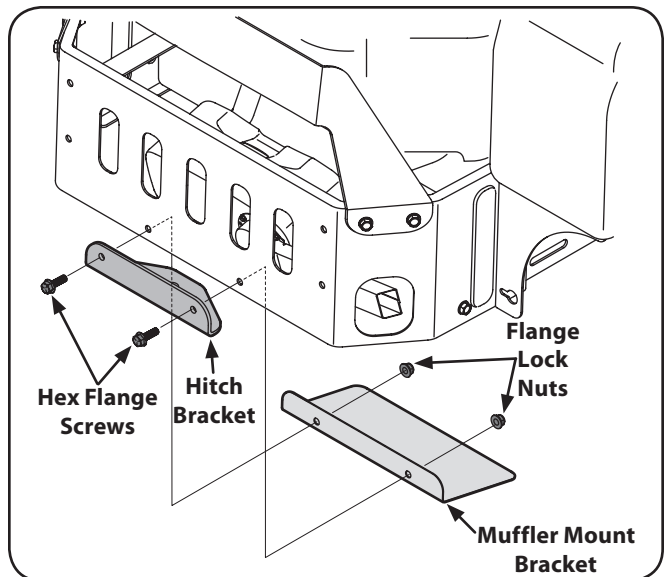

Figure 3-6
1. Remove the hex flange screws and flange lock nuts that secure the hitch bracket and muffler mount bracket to the bumper bracket. See Fig. 3-6.